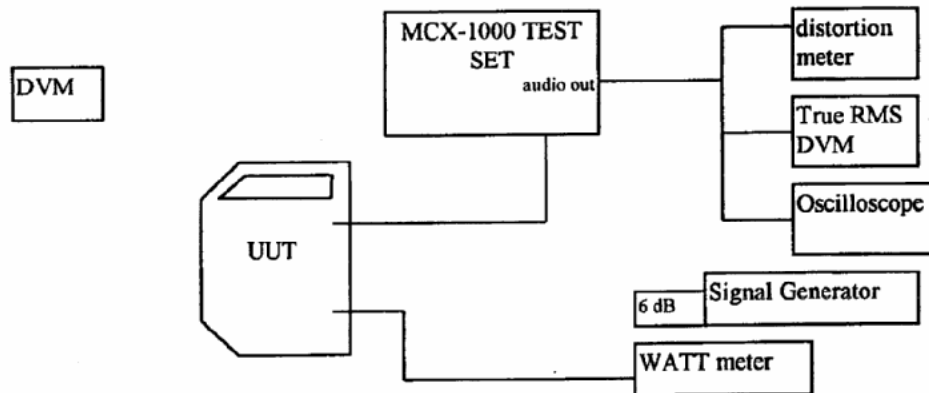

Figure 1
- 4.1.2. Connect the test equipment per figure 1.
- 4.2.1. Connect the test equipment with the POWER OFF per figure 1.
- 4.3.1. Connect the equipment as in figure 1 and channel the test fixture and signal generator to 130.400 MHz. Ensure the signal generator frequency is within ± 300 Hz of 130.400 MHz.
- 4.5.1. With the Set-up of figure 1, measure the ((S+N)/N) at the following frequencies with 2.0 μ V (Hard) 90% AM (1 kHz) input from the signal generator.
- 4.6.1. With the Set-up of Figure 1, channel the signal generator and the test fixture to 130.400 MHz and adjust the RF input level for 3.0 μ V (hard). Note the AGC voltage (R15 of the Audio Board).
- 4.7.1. With the set-up of Figure 1, adjust the signal generator level for 3.0 μ V (hard), at 130.400 MHz. 90% AM (1 kHz) and channel the test fixture to 130.400 MHz. Note the Audio output level.
- 4.8.1. With the Set-up of Figure 1, and the test fixture channeled to 130.400 MHz,